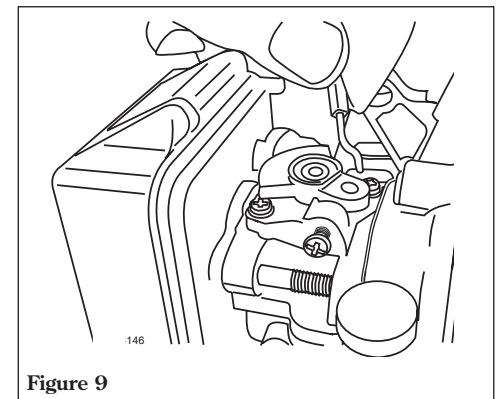

Figure 9
3. Connect the S-shaped end of the throttle cable to the throttle lever on top of the carburetor. See Figure 9.